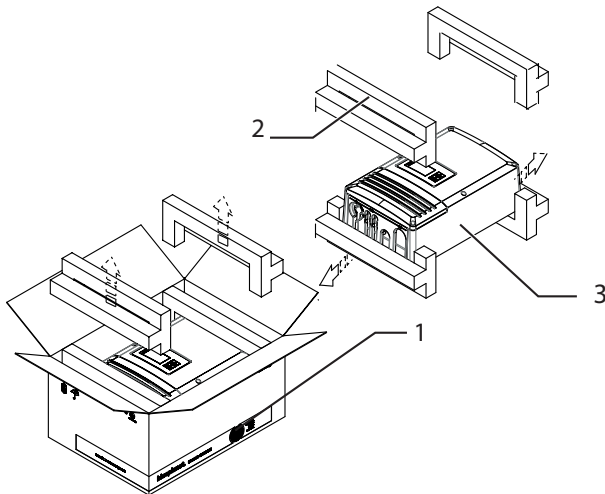

Figure 8: Unpack inverter
1. Mark the position of the upper boreholes on the wall in accordance with the dimensions in Fig. 8 or using the suspension brackets on the back of the housing.